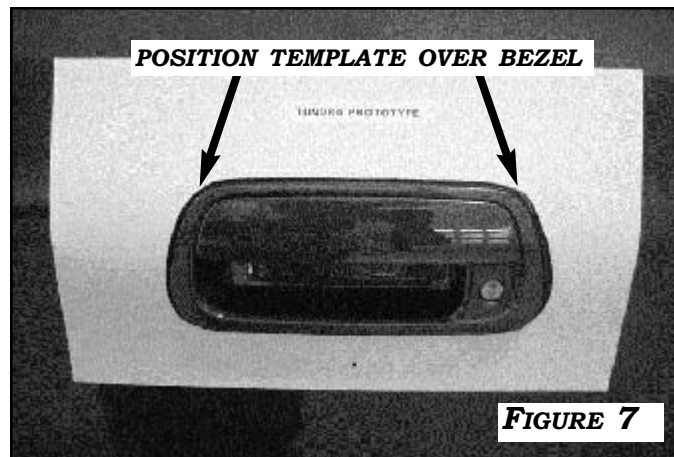
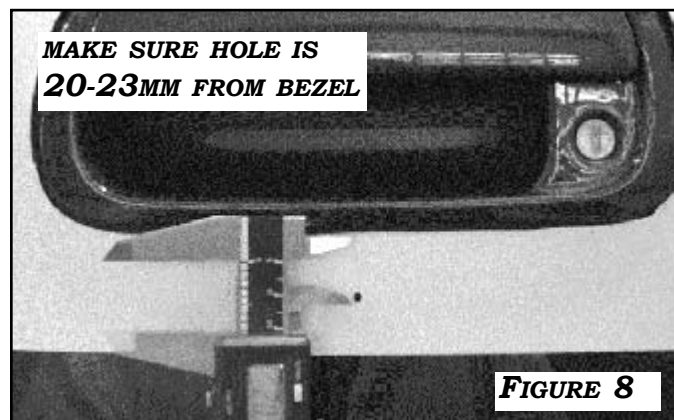
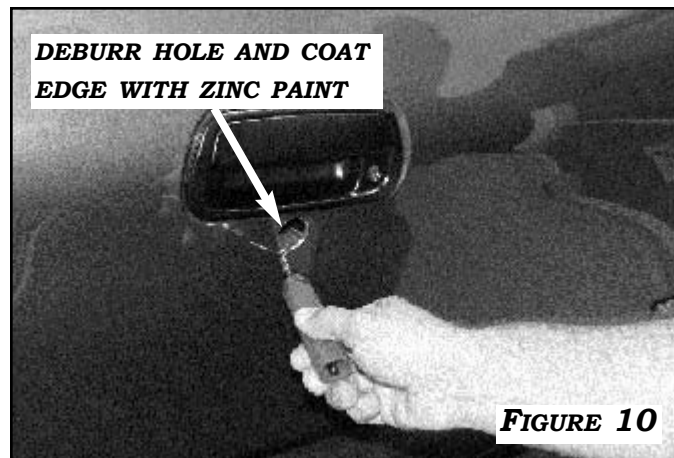

FIGURE 7
FIGURE 8
FIGURE 10
1. CLOSE THE TAILGATE. MOUNT THE MAGNETIC TUNDRA CAMERA DRILLING TEMPLATE TO THE TAILGATE BY FITTING IT AROUND THE HANDLE BEZEL AS SHOWN IN **FIGURE 7**. USE A PENCIL OR CENTER PUNCH TO MARK A HOLE BELOW THE BEZEL THROUGH THE ONE IN THE TEMPLATE. THE MARK SHOULD BE BETWEEN 20-23MM BELOW THE BOTTOM EDGE OF THE BEZEL **FIGURE 8**. DRILL A .25" PILOT HOLE AT THE MARK, AND THEN DRILL A 27MM HOLE AT THE PILOT HOLE. DEBURR AND SMOOTH THE EDGE OF THE HOLE WITH A DEBURRING TOOL. VACUUM THE METAL SHAVINGS OUT OF THE TAILGATE. USE ZINC GALVANIZED PAINT TO COAT THE EXPOSED EDGE OF THE HOLE FOR RUST PREVENTION AS SHOWN IN **FIGURE 10**. MAKE SURE THE PAINT IS DRY BEFORE MOVING ON.